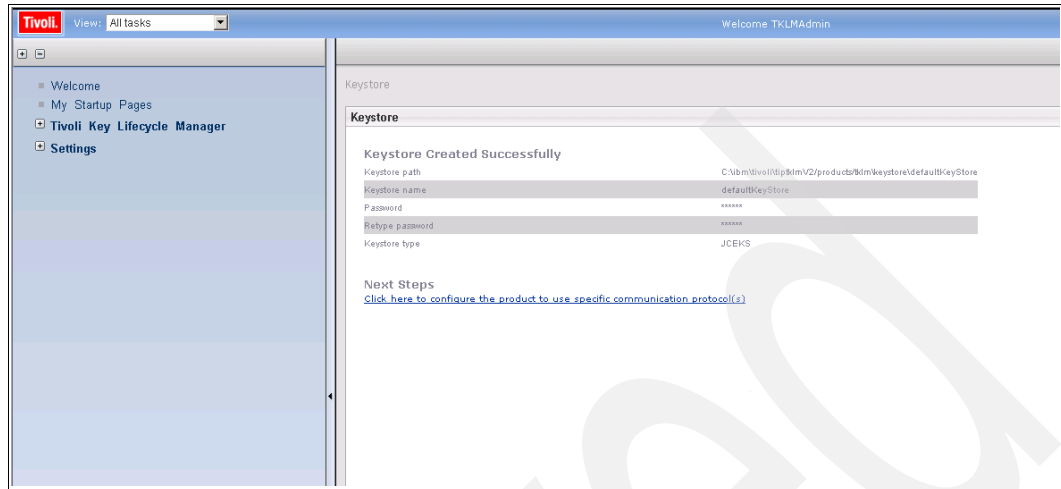

Figure 6-24 TKLM\_v2\_Keystore\_created
24. A Keystore Created Successfully message is displayed (Figure 6-24). Click the **Next Steps** row to start TKLM configuration.